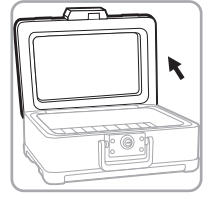

Figure 3
3. The Chest is now unlocked and you may lift the lid (Figure 3).